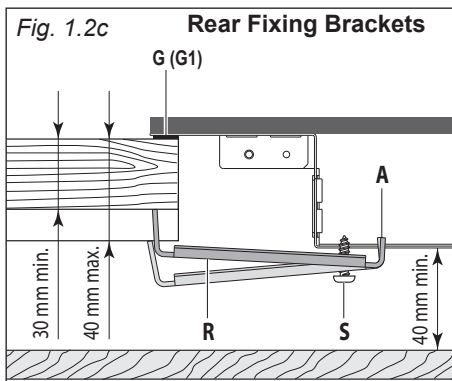

Fig. 1.2c
- Fasten the brackets “F” and “R” to the appropriate socket holes, without tightening the screws “S” for the moment. Make sure that the tabs are mounted correctly, as shown (figs. 1.2c, 1.2d). Rotate the tabs so that the cooktop can be put into the cutout.
- Put the brackets “F” and “R” into place; tooth “A” of the brackets should go into the hole (figs. 1.2c, 1.2d).